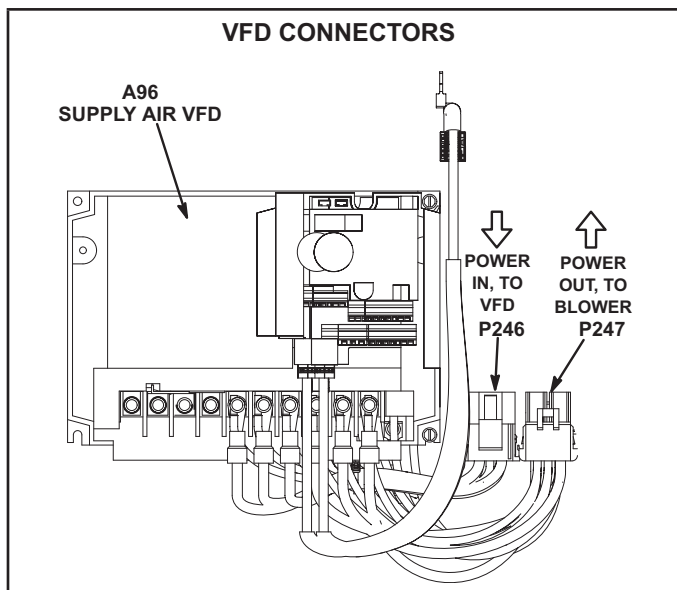

FIGURE 27
- 2 - Locate P246 and P247 connectors near the VFD. See figure 27.